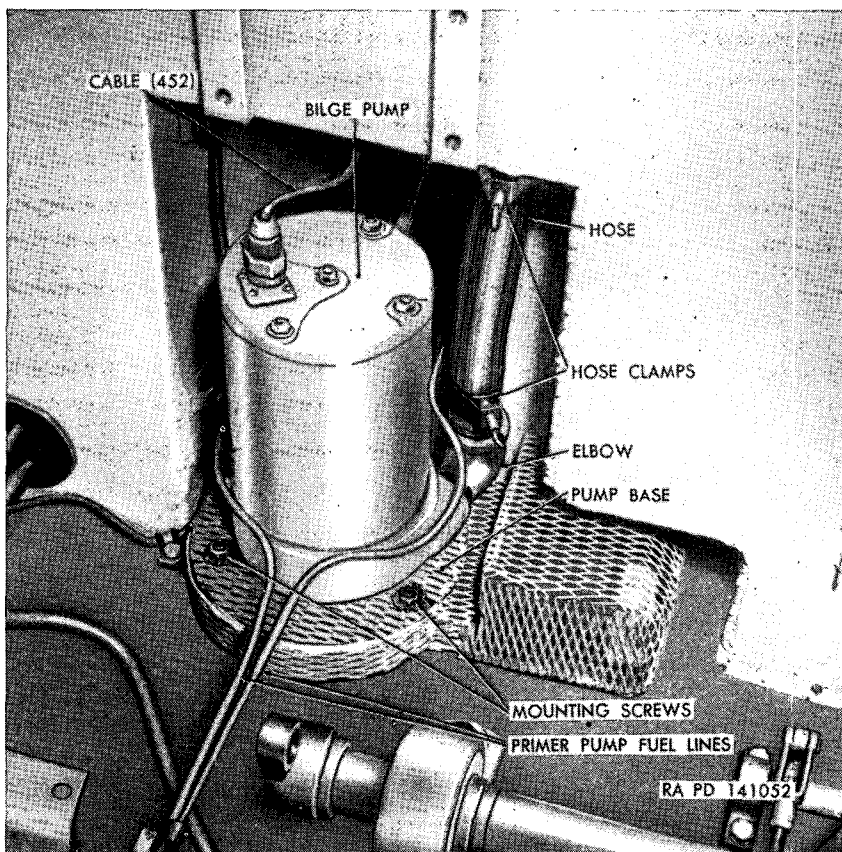

Figure 334. Front bilge pump—installed view.
a. FRONT BILGE PUMP (fig. 334).
- (1) *Removal.* Remove ammunition stowage boxes and ration box (par. 265). Remove primer line clips and spread lines apart. Unscrew cable connector nut from bilge pump. Loosen hose clamp and pry hose off elbow. Remove three mounting screws from bilge pump base and lift bilge pump out of vehicle. Disconnect fittings from bilge pump.
- (2) *Service.* To clean the bilge pump strainer, remove the four screws securing strainer to pump base and remove any foreign material which may be clogging the pump.
- (3) *Installation* (fig. 334). Install fittings on bilge pump outlet. Install three mounting screws which secure bilge pump base to hull floor. Connect hose clamp to secure outlet line to pump fittings. Connect electrical cable to pump. Bend primer lines back into shape and secure them with the clip. Install ration box and ammunition stowage boxes (par. 265).
a. **BILGE PUMPS** (figs. 334 and 335). The positive feed cable of each bilge pump motor is bypassed to the pump motor frame by means of a 0.01-mfd, 100-volt capacitor.